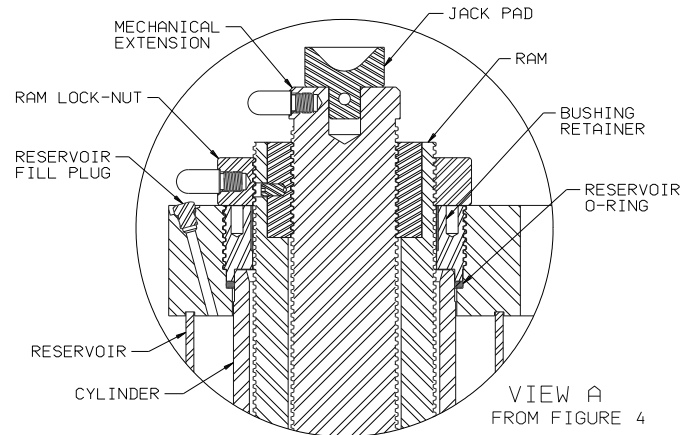

FIGURE 2 – View A from Figure 1
1. Remove ram assembly as described in Figure 2.
6. Re-install ram assembly as described in Figure 2.